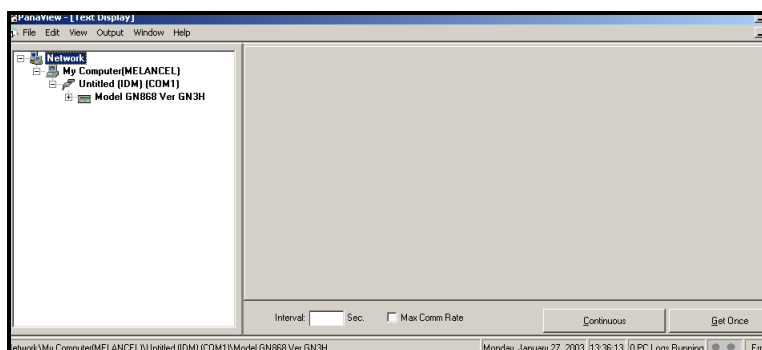

Figure 2-2: Text Display Window
3. Using the *Window* menu, arrange the open windows in the desired format. For this discussion, Figure 2-2 below shows the *Text Display* window in its maximized (full-screen) size.
Note: Figure 2-2 has been compressed both vertically and horizontally for improved clarity.
5. Before actual data values can be displayed in the text pane, activate one of the following data collection modes (see Figure 2-2 on page 2-5):